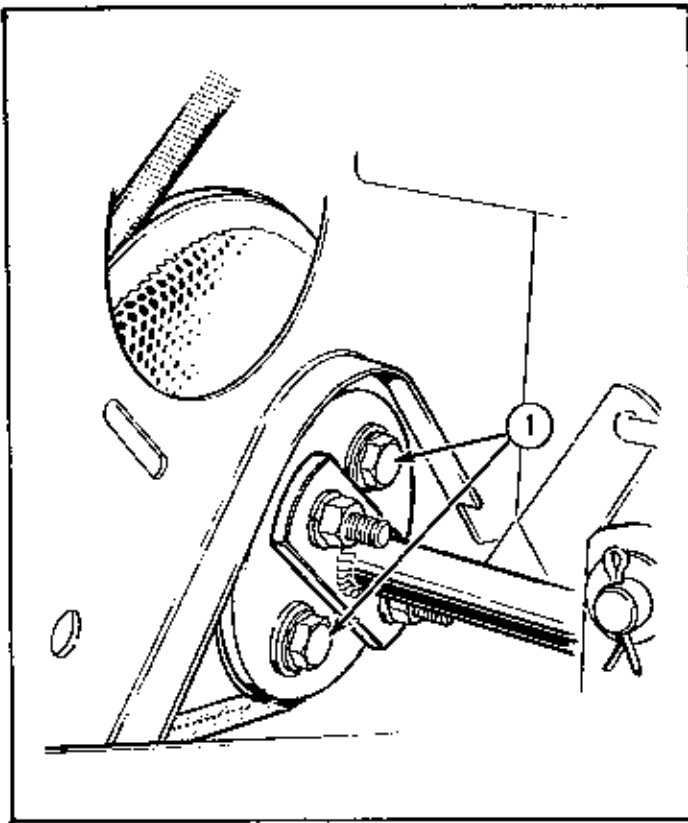
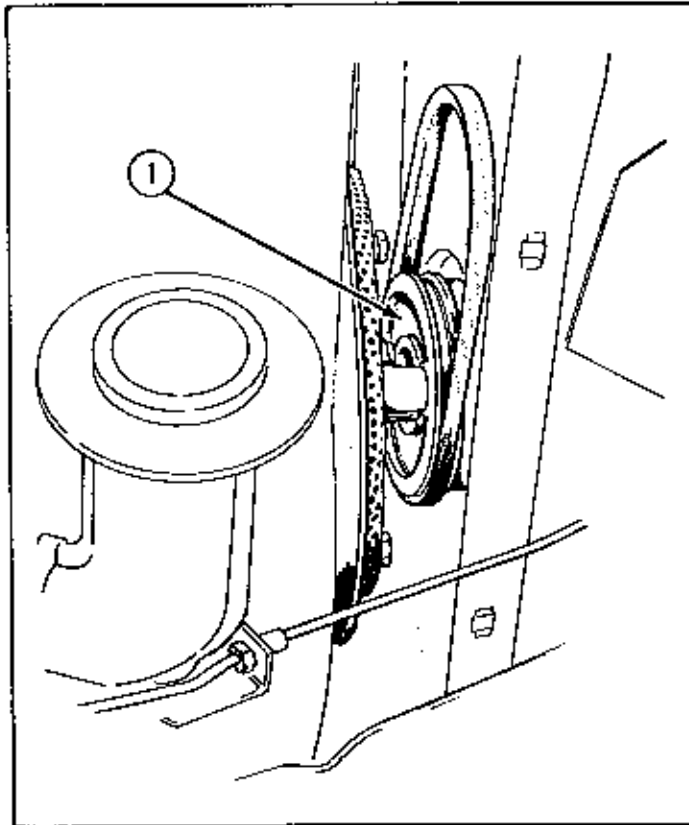

FIGURE 2
FIGURE 3
- C. Remove two capscrews holding front coupling to the engine pulley (1, Fig. 2) and replace Drive Hub with the hydraulic pump drive pulley (1, Fig. 3), being sure to have the pump belt in position on the pulley before replacing the attaching screws.